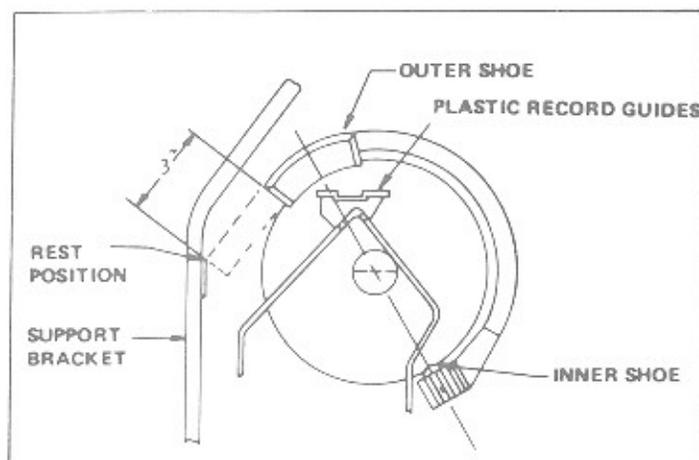

Figure 3-15. Magazine and Transfer Arm Position
2. Using a 5/32-inch Allen wrench in the end of transfer motor shaft, turn motor shaft clockwise until the gripper bow lifts the record out of the magazine, and the outer shoe is approximately 3 inches from its rest position (see figure 3-15).